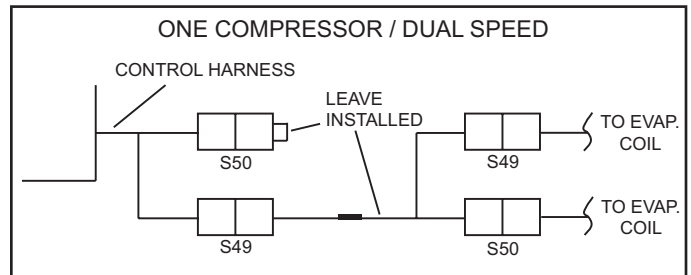
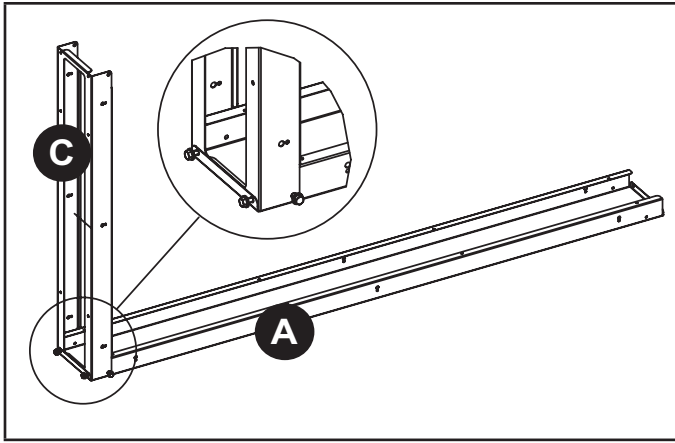

FIGURE 8. Jumper Harness Remains Installed
FIGURE 10. Assemble Front Panel (C) to Bottom Panel (A)
- 1 - Leave jumper harness connected to main control harness and S50 jumper plug. Refer to figure 8.
The cabinet sections are designed to be attached together. Align the edges as shown in figure 10.
- 1 - Place one Top / Bottom Panel A on a firm surface. Align front panel C into one end of side panel A (see figure 8). Attach Panel C to Panel A as shown in figure 10 using provided screws.